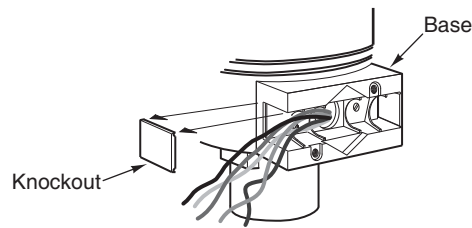

Figure-6 Removal of Knockout on Actuator Base.
2. Remove the knockout, using channel lock pliers, on the selected side of the actuator. Refer to Figure-6.